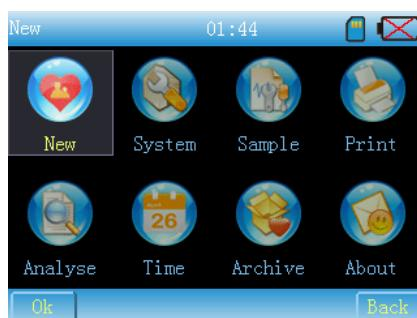

Fig. 7-5
3.  Click this icon or the menu key to enter the main menu, as Fig.7-5.